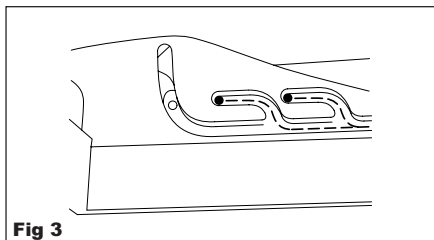

Fig 3
- (ii) Whilst depressed, slide the bar to the desired position and locate into the stops provided (Fig 3).
To close the rooflight, pull the operating bar down, unlocking the mechanism. Now, move the bar backwards (against the direction of travel) and the rooflight will close; all the time holding the bar down. Once you reach the end position the hooks will lock the rooflight automatically. Release the operating bar and the rooflight will remain closed (Fig 3).